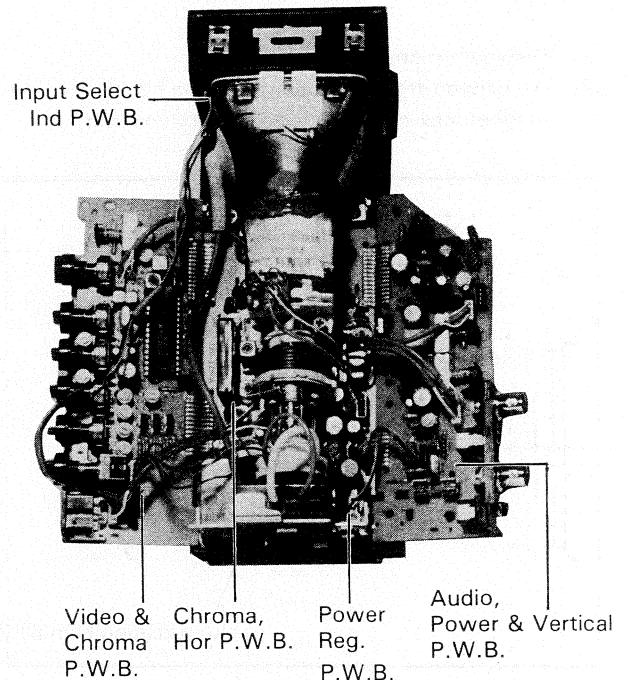

Fig. 1-5
- 2) Disengage the circuit boards of the sides from the rivets. The boards can then be opened outward as shown in the Fig. 1-5.